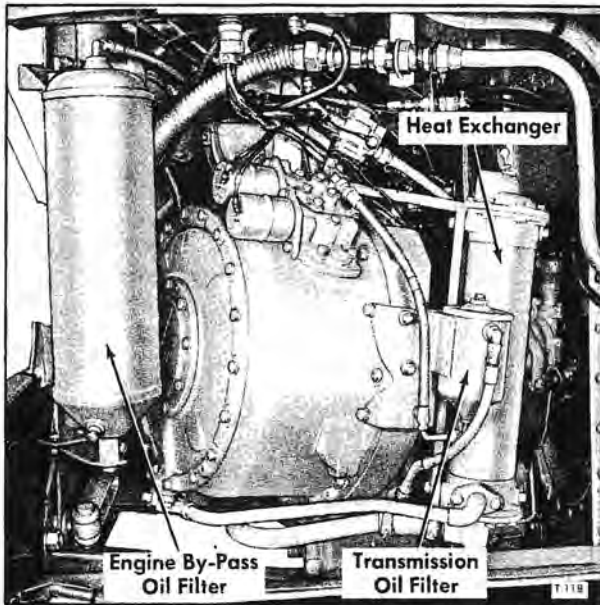

Figure 13—Engine Oil By-Pass Filter, Transmission Oil Filter, and Heat Exchanger Installed
5. Disconnect propeller shaft and transmission control as directed in respective sections of this manual. Disconnect ground strap (9).
6. Working below coach, disconnect cables (13) from starter or coach body.
7. At right-hand support hanger and engine oil filter (fig. 13), disconnect oil lines and remove filter bracket bolts. Remove filter.
8. Disconnect wiring and cable from bottom of electrical apparatus box (5), also disconnect wires from switch at governor cover on coaches with hydraulic transmissions.
9. Disconnect air compressor discharge line (6), and compressor governor line (7).
10. Disconnect fuel lines (8) at junction bracket on engine.
6. Connect oil pressure line (4) at engine, and connect air line between solenoid valve and shut-off air cylinder on engine governor.
10. Connect water filter lines (when used) and cooling system vent line (2).
11. Connect fuel lines (8) at junction bracket on engine.
12. Install oil filter assembly at right support hanger and connect lines (fig. 13).
14. Install air compressor discharge line (6) and compressor governor line (7).
18. Connect cables (13) at starter and connect ground strap (9).